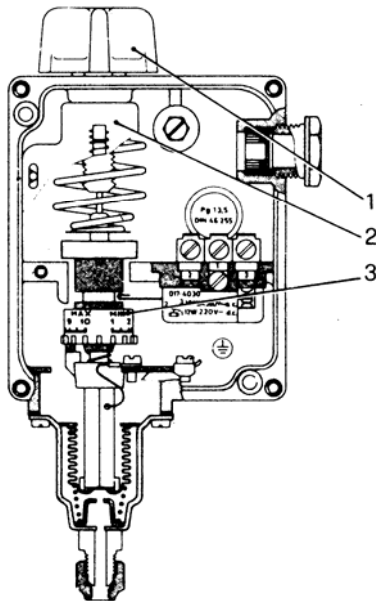
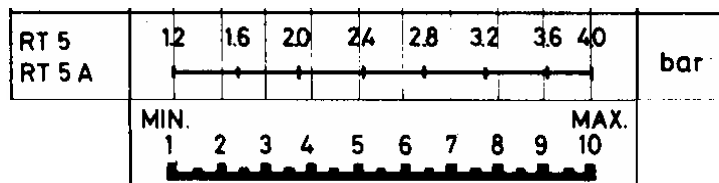

Fig. 3
Fig. 4
**Adjustment of the pressure switch (Fig. 3):**
- a) Turn the knob (1) until the scale indicator (2) reaches the pressure at which the burner shall restart;
- a) Remove the cover of the pressure switch and position the drum (3) at the value selected for the pressure differential (stopping the burner) as to the diagram Fig. 4.